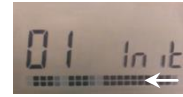

Fig. 2
- The LED of the activated zone/s should go out. The LED of the next, not activated zone can blink nevertheless. During the thermostat RF transmission you can see on the display 2 lines of squares running. (see Fig. 2)